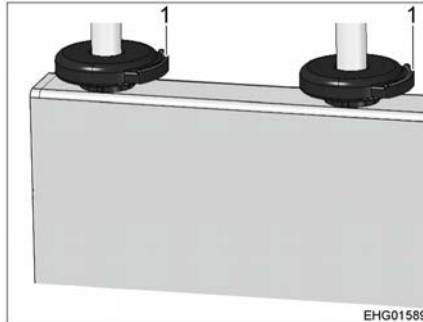

Fig. 31 Headrest release
- Press the release (Fig. 31,1) on the two guide rods of the headrest.